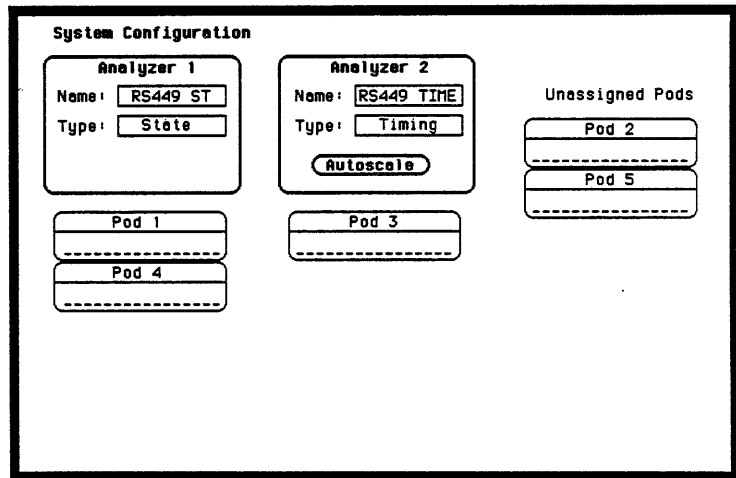

Figure 6-6. Configuration Menu for Timing Analysis
2. Assign pod 3 to Analyzer 2. You should see a display as shown in figure 6-6.